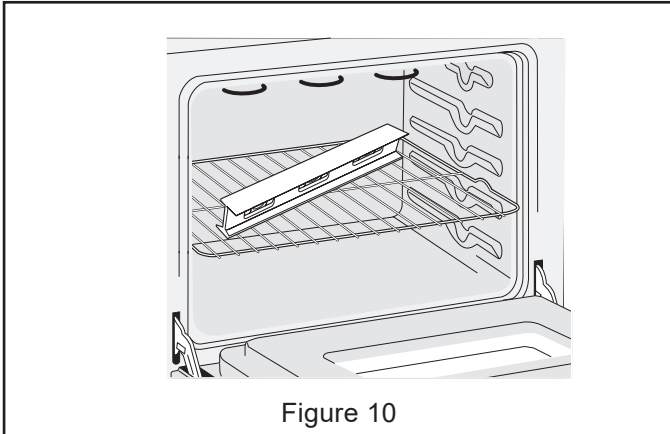

Figure 10
1. Install an oven rack in the center of the upper oven (see Figure 10).